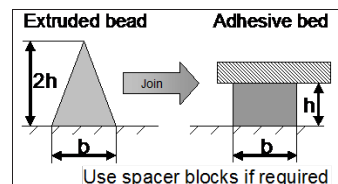

Figure 1: Recommended Bead Configuration
Application Set up the PowerCure® Dispenser according to the PowerCure® Users Manual. If the application is discontinued for more than two (2) minutes, the mixer must be replaced. Consider the viscosity increase at low temperatures. For easy application, condition the adhesive at ambient temperature prior to use. To ensure a uniform thickness of the bondline, it is recommended to apply the adhesive in the form of a triangular bead (see figure 1). The open time is significantly shorter in hot and humid climates. The windshield must always be installed within the open time. Never install a windshield after the product has formed a skin.